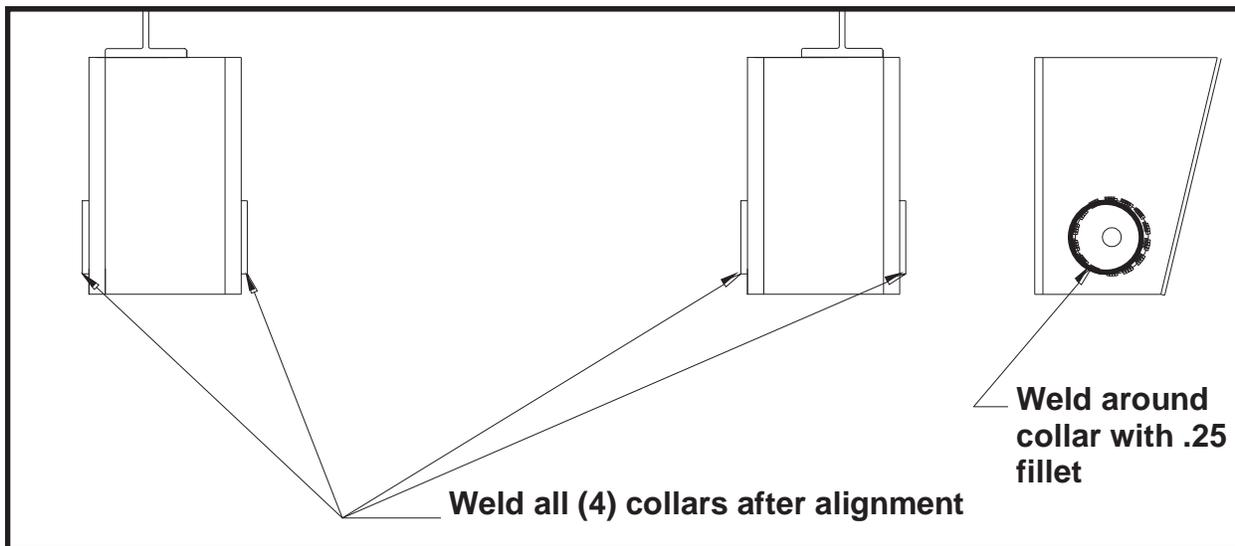

Figure 17
8. Weld all (4) collars with a .25 fillet completely around collars per **Figure 17**.